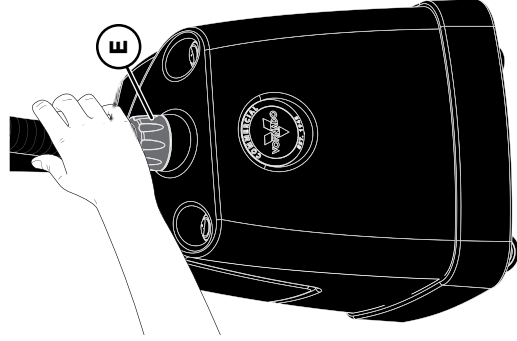

Figure 4
- 1.** Screw Hose Coupling (E) clockwise onto unit steam outlet until tight (Figure 4).